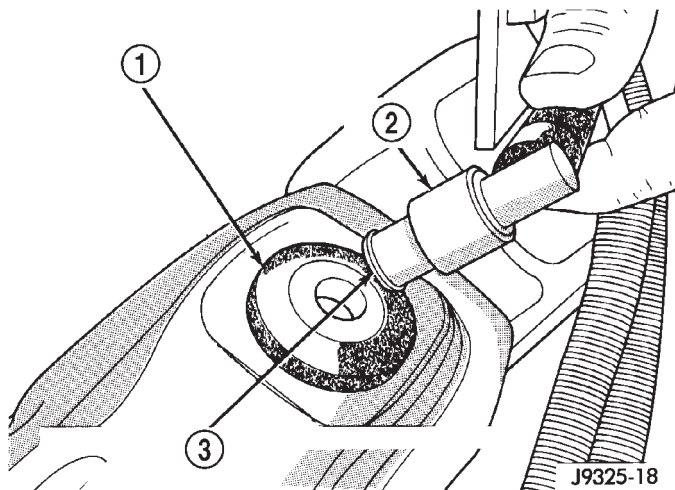

Fig. 10 Shake PCV
(4) Turn engine off and remove PCV valve from valve cover. The valve should rattle when shaken (Fig. 10).